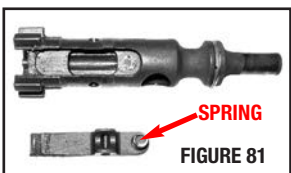

FIGURE 81
- Remove the extractor from the bolt. Do not remove the rubber grommet from the spring. (FIGURE 81)